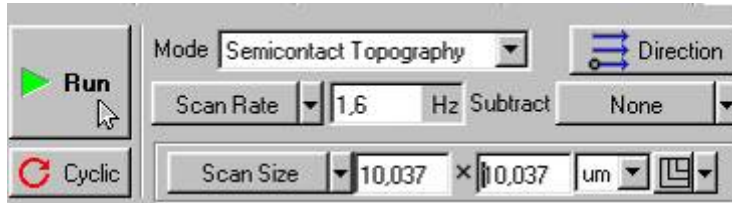

Fig. 4-33
1. To launch scanning, you need to press **RUN** button located in the **SCAN** window panel to the left in the top (Fig. 4-33);